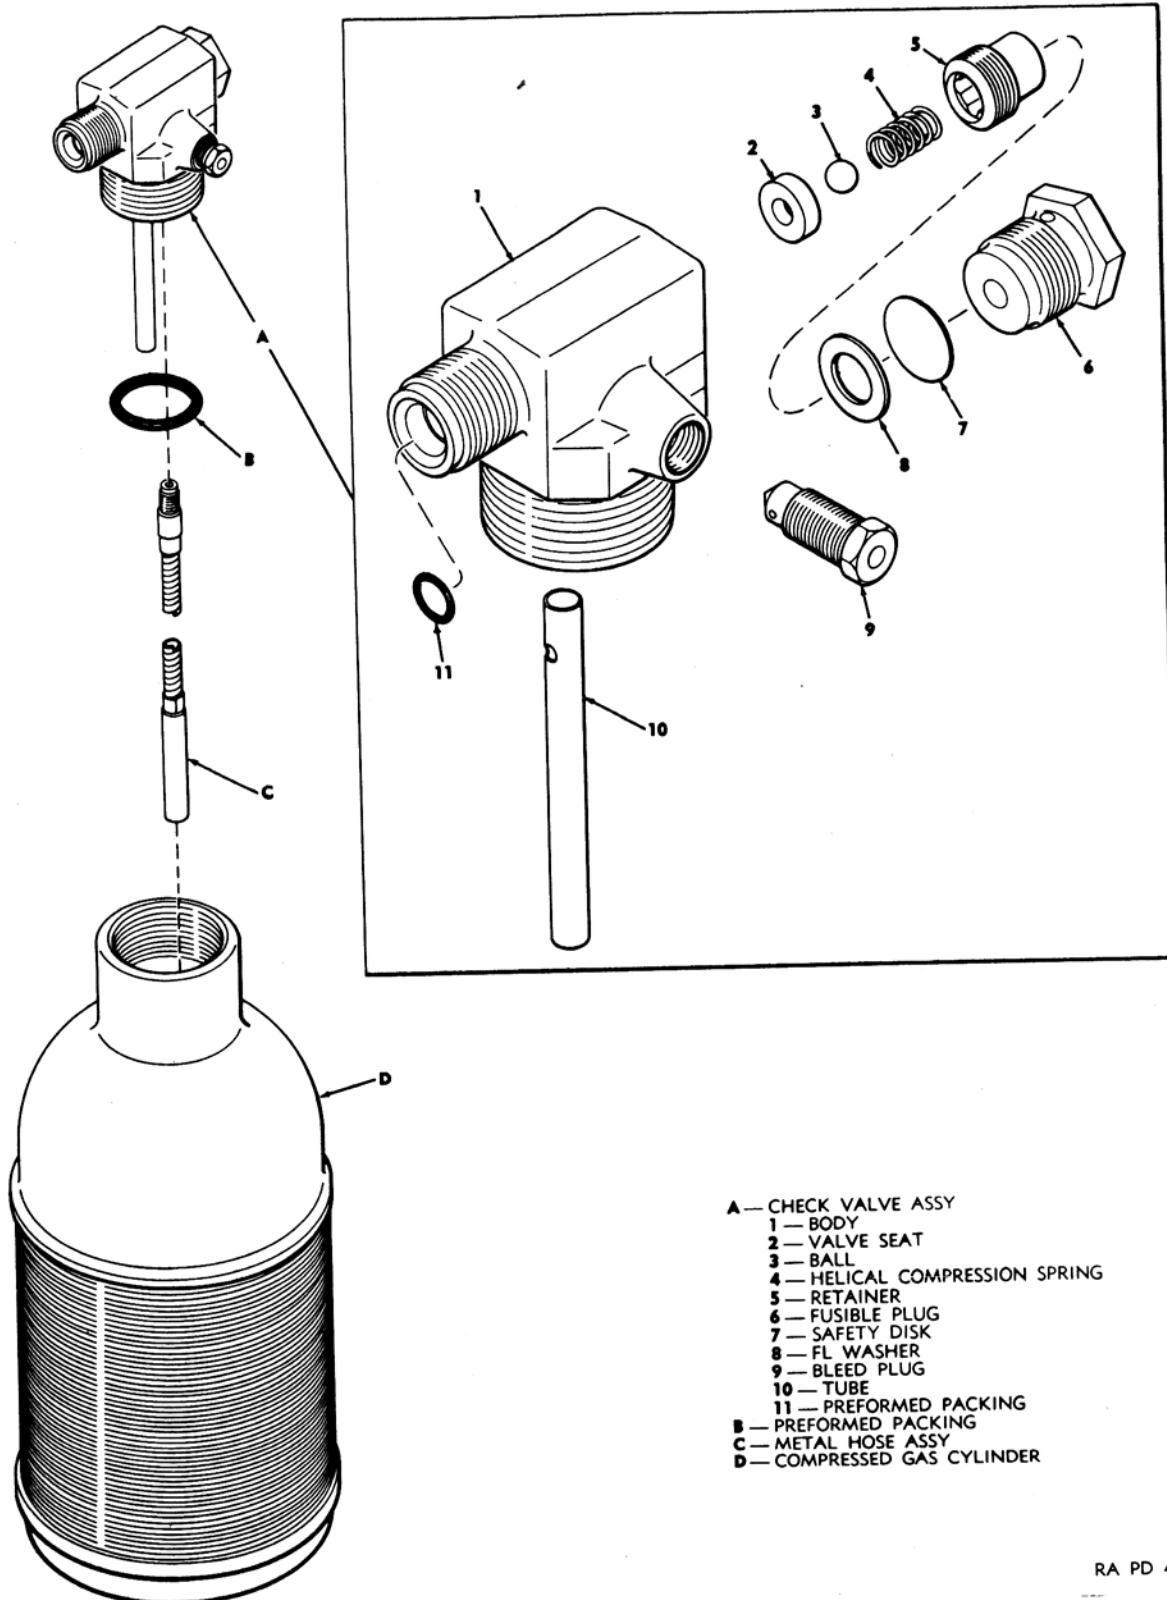

Figure 139. Compressed gas cylinder assembly — disassembly and assembly.
- (a) Loosen the bleed plug (A9, fig. 139) a three-quarter turn.
- (b) Remove the check valve assembly (A) from the compressed gas cylinder (D).
- (a) Assemble the check valve assembly (A).
- (b) Install the preformed packing (B) and metal hose assembly (C) on the valve assembly.
- (c) Install the valve assembly on the compressed gas cylinder (D).